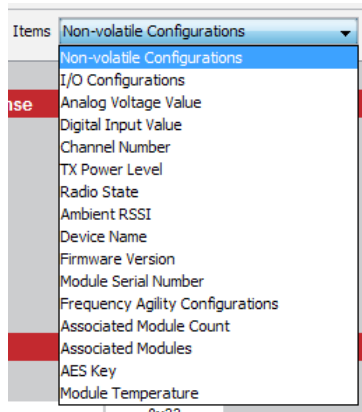

Figure 18: The Master Development System Software Command Set Tab Items Menu
4. The Items drop down menu displays all of the items that are available for the active module (Figure 18). Selecting one of the items from this menu automatically fills in the Command box. The values can be adjusted by typing in the box.